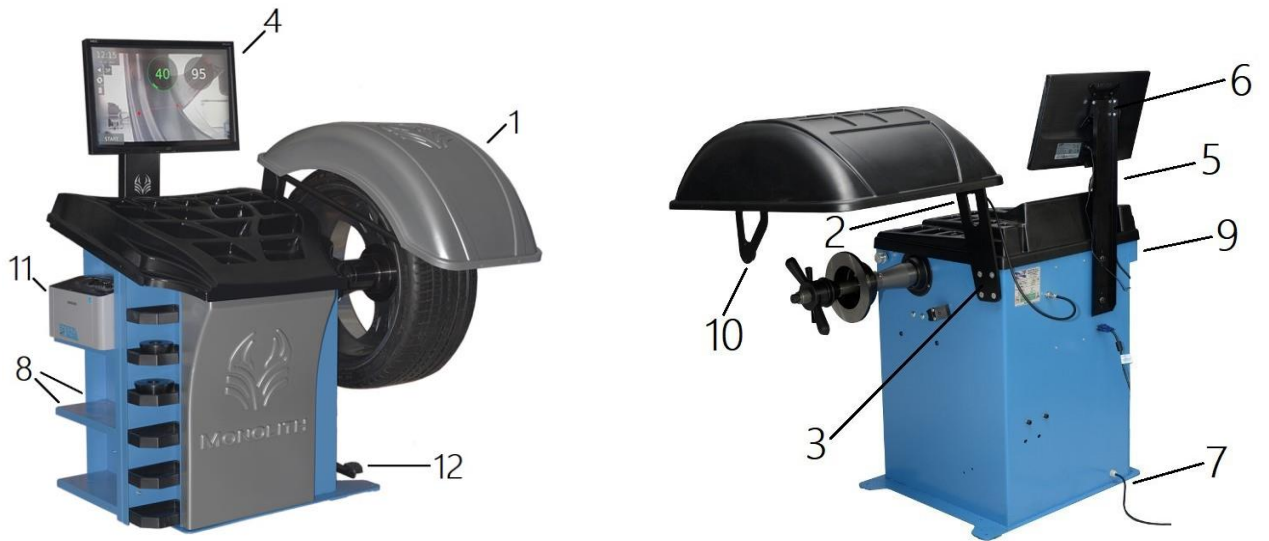

Fig. 2. Balancer's main components.
See fig. 2.
See fig. 2. Screw monitor bracket (5) to machine casing with 2 bolts with large pads. Place monitor tilting bracket (6) then screw the monitor (4). Connect the power cable, signal cable and USB cable to monitor.
The balancing machine operation is controlled by the program, or rather a set of programs, which is activated after the power is turned on. Press the button (Fig. 2 (9)) on the housing back to start the machine. If the voltage is on the network, the button will be illuminated and then the machine program will start. In the initial phase the dots will be displayed on the monitor to indicate the start and testing of the system. After several seconds, the initial screen of the program will be displayed on the monitor. The initial screen will display the available program options as well as the current date and time.
To turn the machine off, first touch on the initial screen a rectangle with the icon of the switch, wait a few seconds to close the system, then turn off the electric button (Fig. 2 (9)) located on the machine's casing.